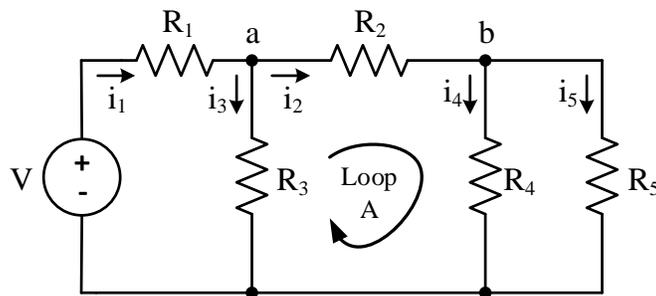

Figure 3. Resistor Network with Nodes a and b, note Loop A.
Task A2: Using a breadboard, assemble the network shown in Figure 3. Using the DMM as a voltmeter, adjust the supply voltage, V , from the DC power supply, to obtain ten volts.
Task A3: Measure and record the voltage across each resistor shown in Figure 3. Be sure to record the polarities of the voltages.
Task A4: Using the DMM as an ammeter, measure and record the currents i_1 through i_5 shown in Figure 3. You will have to insert the ammeter in series with the resistors one-by-one, and then replace the resistor to its original position prior to doing the next measurement. Keep track of the direction of the currents you measure.
1. Verify KVL for the center loop (Loop A) as shown in Figure 3.
2. Verify KCL for node **a** as shown in Figure 3.